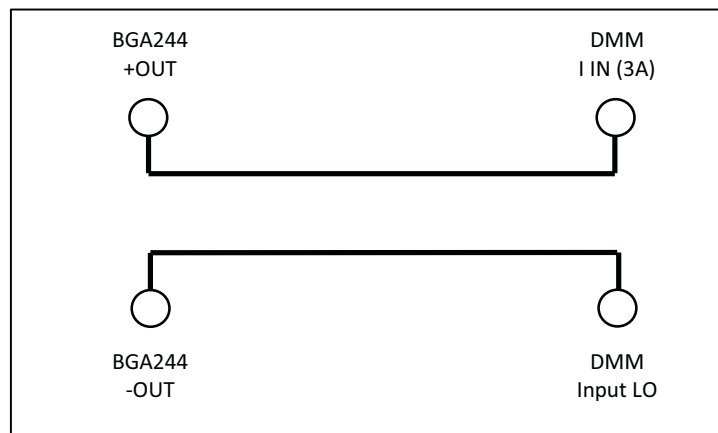

FIGURE 34: SETUP FOR MEASURE OUT CURRENT TEST
6. Connect the Measurement Output (C6) to the DMM as shown in Figure 34. Set the DMM measure DC Current at maximum resolution. Select auto range.